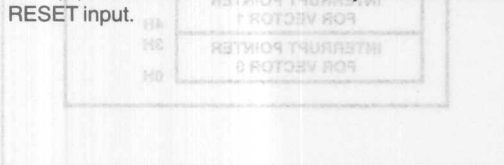

Figure 8. iAPX 86 Real Address Mode Initially Reserved Memory Locations
The 80286 reserves two fixed areas of memory in real address mode (see Figure 8): system initialization area (000000H through 00000FH) and interrupt vector area (000010H through 00001FH). The system initialization area is reserved for system initialization. Initial execution begins at location 000000(H). Locations 000000(H) through 00000FH are reserved for interrupt vectors.